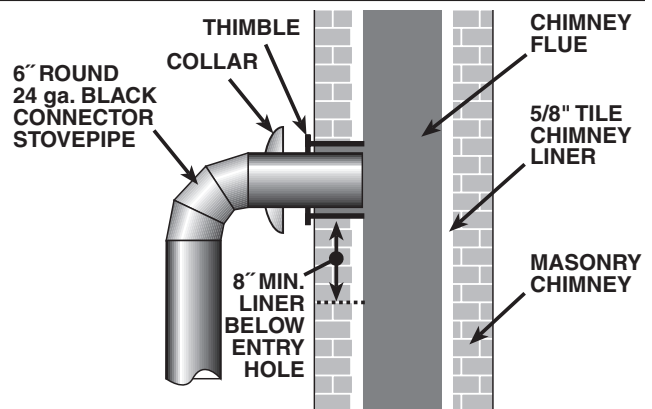

Fig. 6 - Masonry Chimney Connection
1. Drill two 1/4" holes centered on either side of the pipe section 6" from the top end of the pipe (figure 6).
Before using an existing masonry chimney, clean the chimney, inspect the flue liner and make any repairs needed to be sure it is safe to use. Make repairs before attaching the stove. The connector stove pipe and fittings you will need to connect directly to a masonry chimney are shown in figure 6.